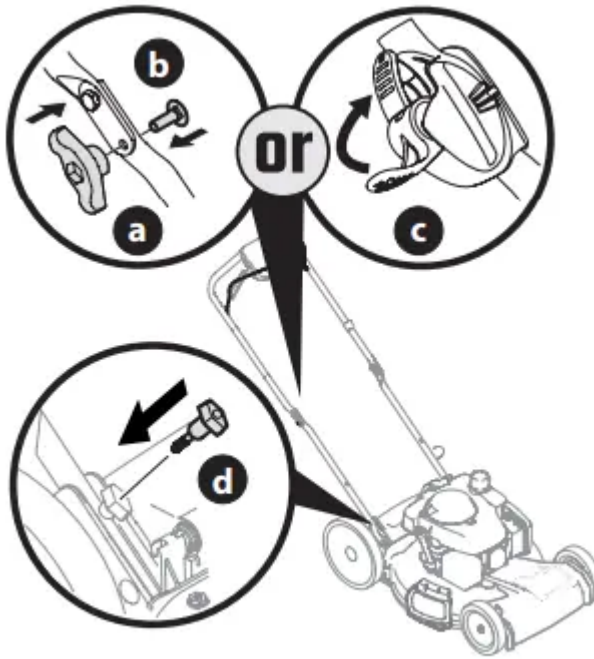

Figure 8
4. Reattach knobs or wing nuts (a) and carriage bolts (b) removed in STEP 2 into lower holes of the handle or lock the EZ-fold handle release levers (c) (Figure 8).
- Using the T-bolts (d) removed in STEP 2, secure the lower handle to the handle brackets (Figure 8) and tighten securely to secure the handle in place.